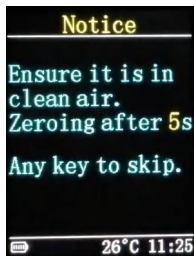

fig 6
- If the zero-calibration function is turned on, detector will perform zero calibration after 5s. User can cancel it during 5s. After zero calibration, it displays pass or not. The zeroing process is shown in Figure 6,7,8.